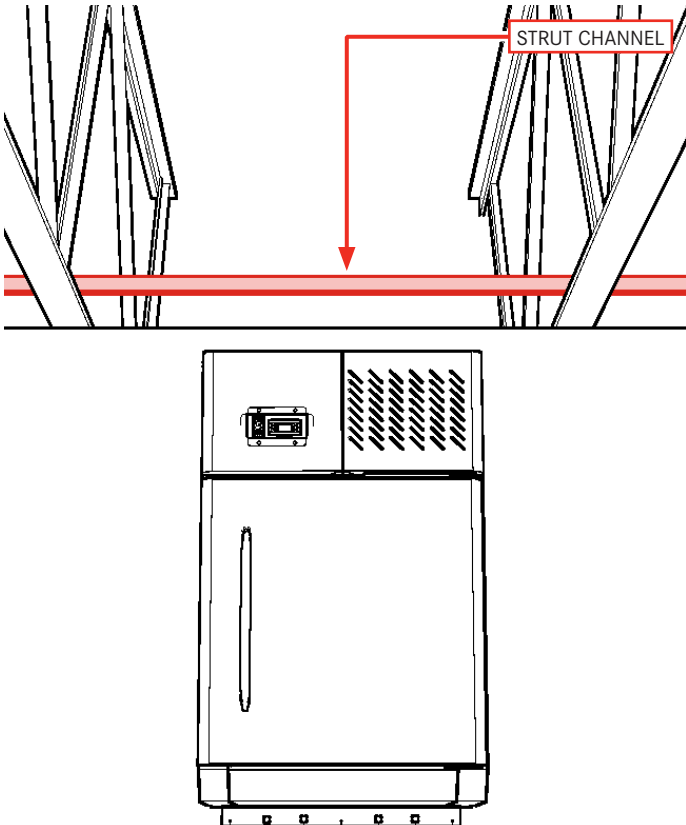

Fig. 9
Span strut channel across two (2) ceiling trusses, above drop ceiling (Fig. 9).